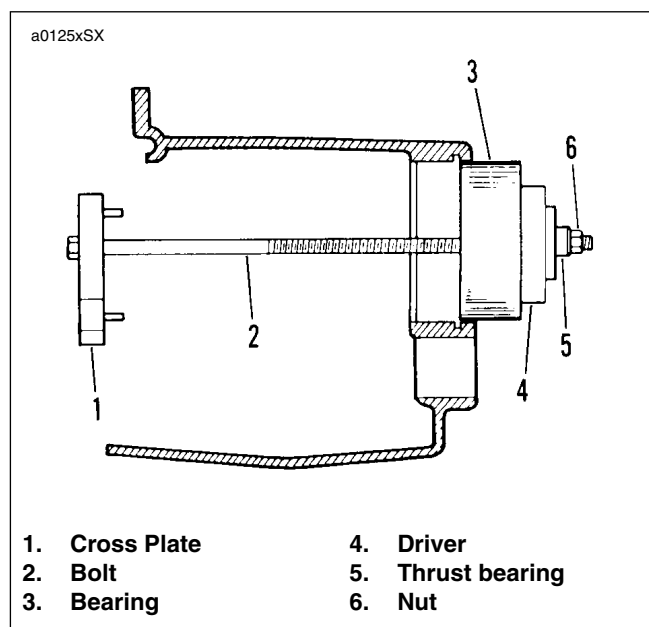

Figure 6-75. Installing Mainshaft 5th Gear Ball Bearing
2. See Figure 6-75. Insert bolt (2) through cross plate (1), new bearing (3), driver (4) and thrust bearing (5). Thread nut (6) on end of bolt. Tighten nut carefully until bearing is started in bore squarely. Tighten nut (6) until bearing is seated against shoulder in bore.